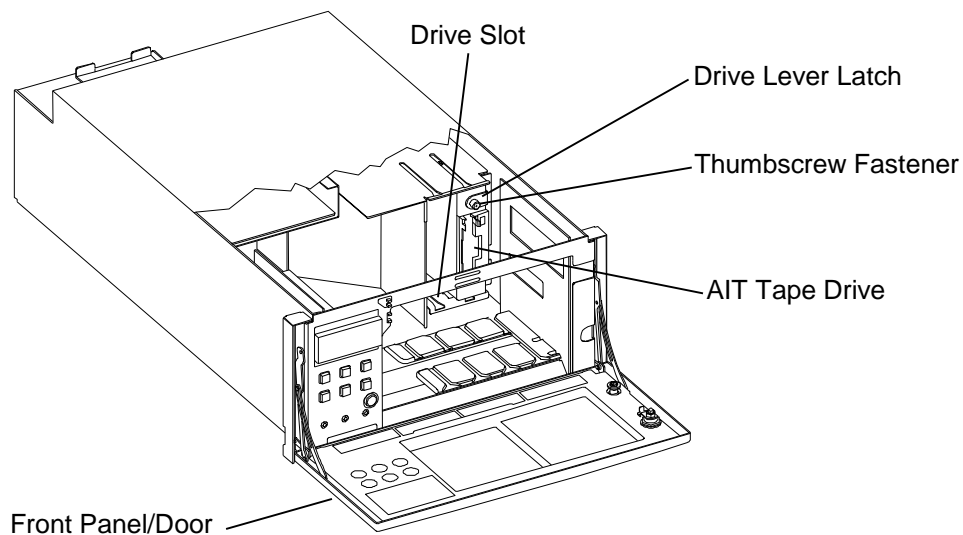

Figure 7-19 Drive Carrier Removal/Insertion
2. Insert the drive filler into the empty drive bay making sure that the tab is inserted into the drive slot. See Figure 7-19 for a view of the drive slot location.